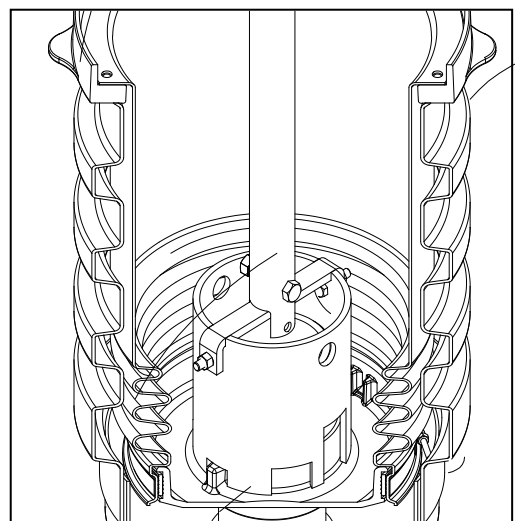

Figure 3
Step 6: (See Figure 3)
Step 7: (See Figure 3)
Step 1-3122 #3: (See Figure 3)
Step 1-3122 #4: (See Figure 3 & 1-3122 #2)
Step 1-3132 #7: (See Figure 3 & 1-3132 #1)